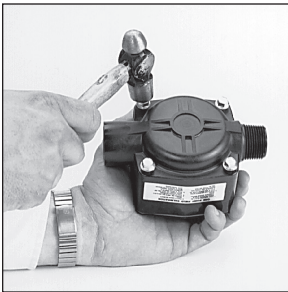

Figure 3
2. Tap the screws with a hammer to loosen the coverplate from the housing. (Figure 3) Remove the screws and washers.